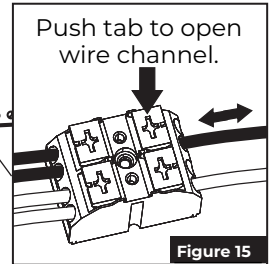

Figure 15
**Power module wiring may loosen during shipping. Gently tug each wire on the connector. If a wire is loose, push the connector tab and reinsert wire. Release tab and verify the wiring is secure. (Figure 15)**